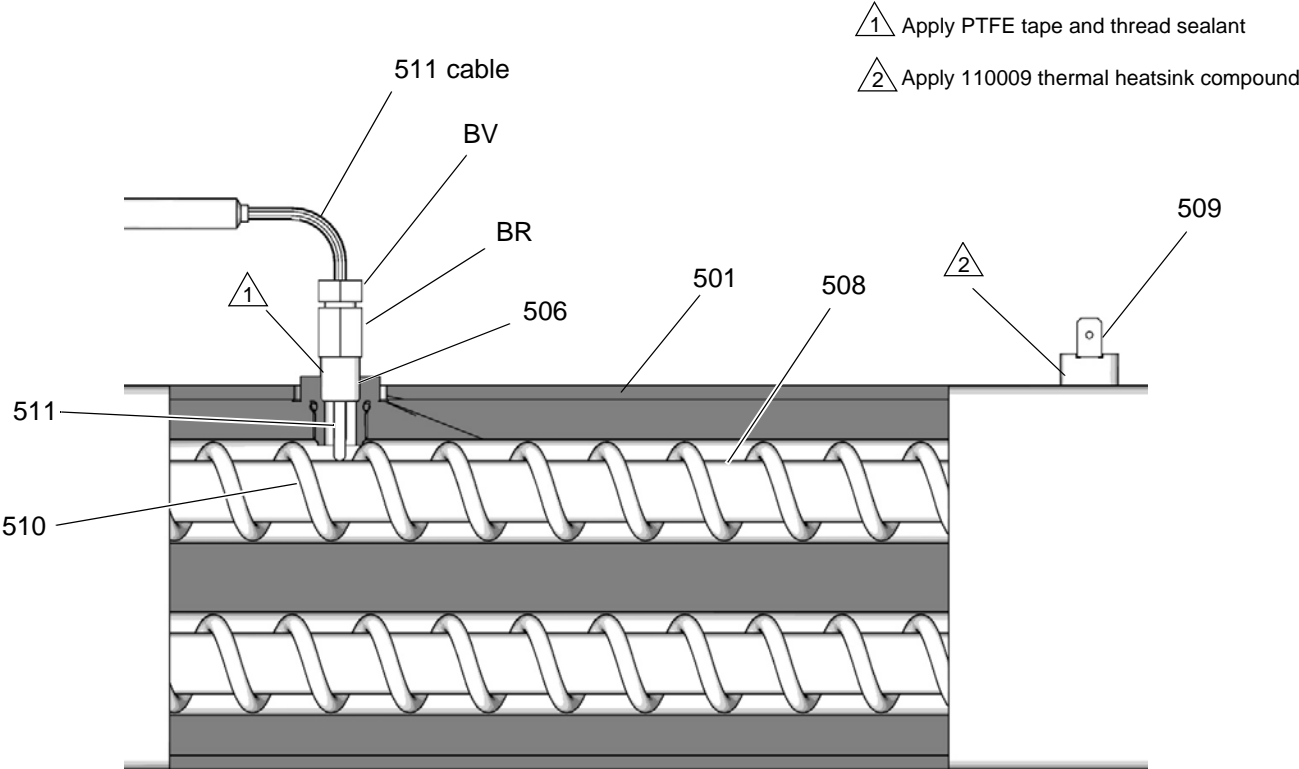

FIG. 69: Thermocouple
6. Feed thermocouple wires out of electrical enclosure (C). Note path as wires must be replaced in the same way.
7. See FIG. 69. Loosen ferrule nut (BV). Remove thermocouple (511) from heater housing (501), then remove thermocouple housing (BR). Do not remove the thermocouple adapter (506) unless it is also necessary to remove the mixer (510). If adapter must be removed, ensure that mixer (510) is out of the way when replacing the adapter.
8. Replace thermocouple. See FIG. 69.
- a. Remove protective tape from thermocouple (511) tip.
- b. Apply PTFE tape and thread sealant to male threads and tighten thermocouple housing (BR) into adapter (506).
- c. Push in thermocouple (511) so tip contacts heater element (508).
- d. Holding thermocouple (511) against heater element, tighten ferrule nut (BV) 1/4 turn past finger-tight.
9. Route thermocouple wires into electrical enclosure (C) and thread into bundle as before. Reconnect wires to board.
11. Turn on heaters A and B simultaneously to test. Temperatures should rise at the same rate. If one heater is low, loosen ferrule nut (BV) and tighten thermocouple housing (BR) to ensure the thermocouple (511) tip contacts element (508).